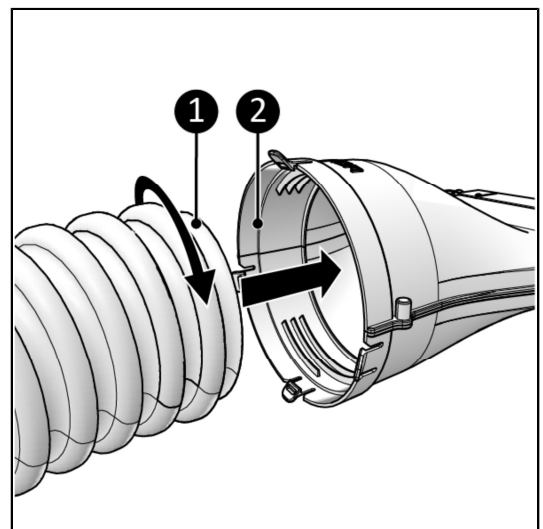

Figure 104.
- With a rotating system, for a hose without a collar Figure 104, pos. 1).
(Figure 104, pos. 1) into the main body
(Figure 104, pos. 2) and tighten.